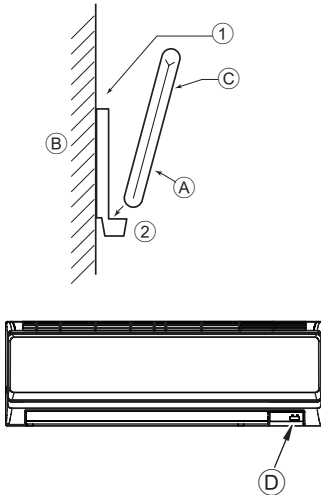
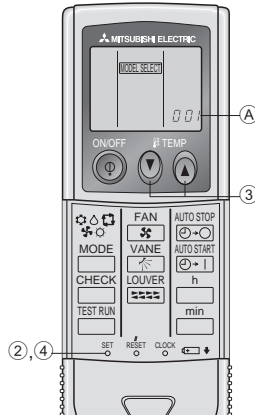

Fig. 6-5
Fig. 6-6
2) Installation method (Fig. 6-5)
- ① Attach the remote controller holder to the desired location using two tapping screws.
- ② Place the lower end of the controller into the holder.
3) Setting (Fig. 6-6)
- ① Insert batteries.
- ② Press the SET button with something sharp at the end. **MODEL SELECT** blinks and Model No. is lighted.
- ③ Press the temp \uparrow \downarrow button to set the Model No.
- ④ Press the SET button with something sharp at the end. **MODEL SELECT** and Model No. are lighted for three seconds, then turned off.